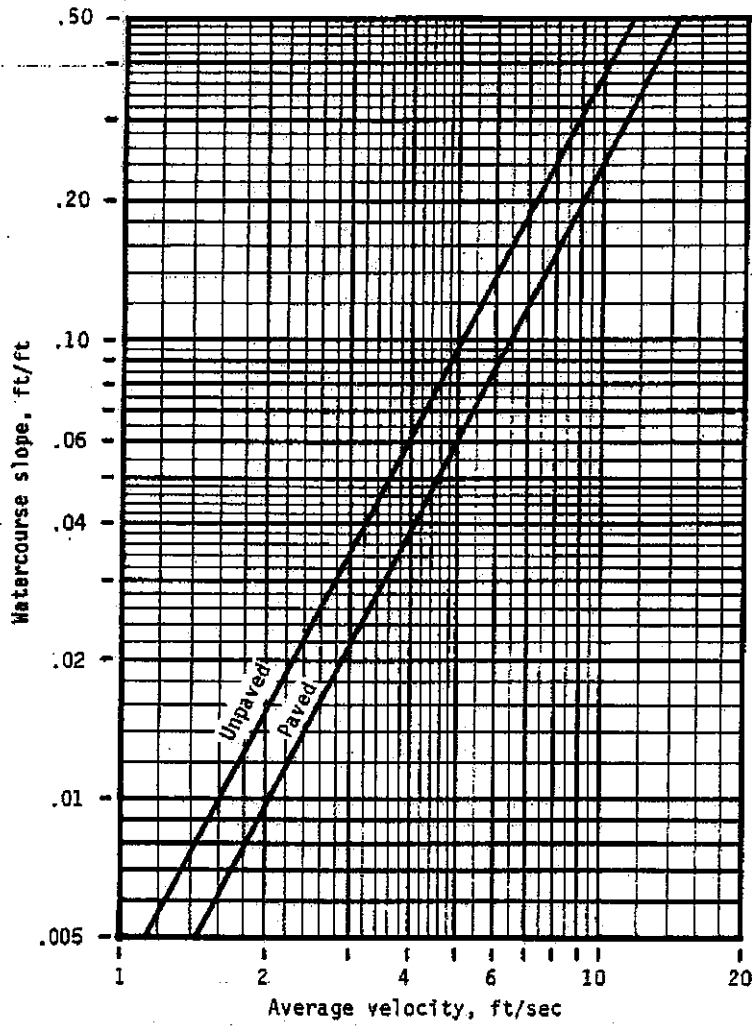

Figure 3-1.—Average velocities for estimating travel time for shallow concentrated flow.
10. Average velocity, V (figure 3-1) .....	ft/s